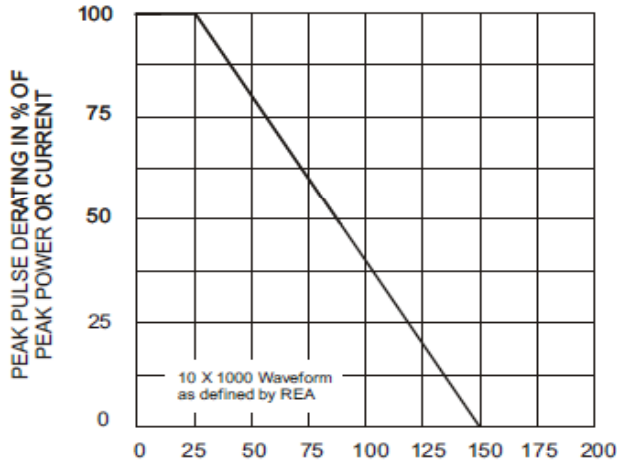
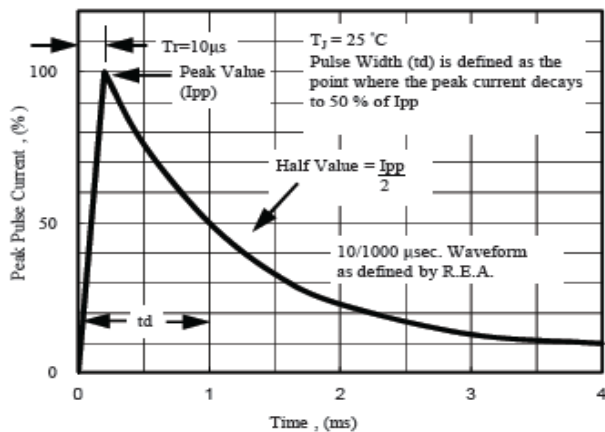

Fig. 1 - Pulse Derating Curve
Fig. 5 - Pulse Waveform
1) Non-repetitive current pulse per Fig.5 and derated above $T_A = 25^\circ\text{C}$ per Fig.1;